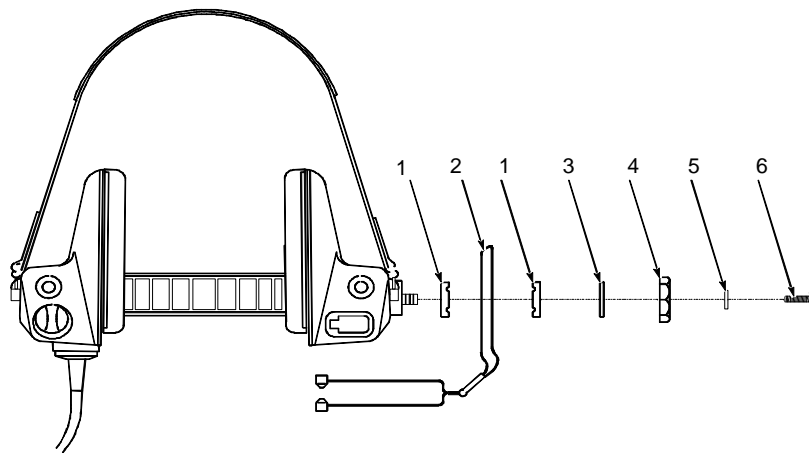

Figure 3-25. Microphone Boom Assembly Removal and Replacement (ACAPS Type B and CAPS Type II)
3.9.8. Boom Assembly/Mounting Hardware Removal and Replacement (ACAPS Type B and CAPS Type II) (Fig. 3-25)